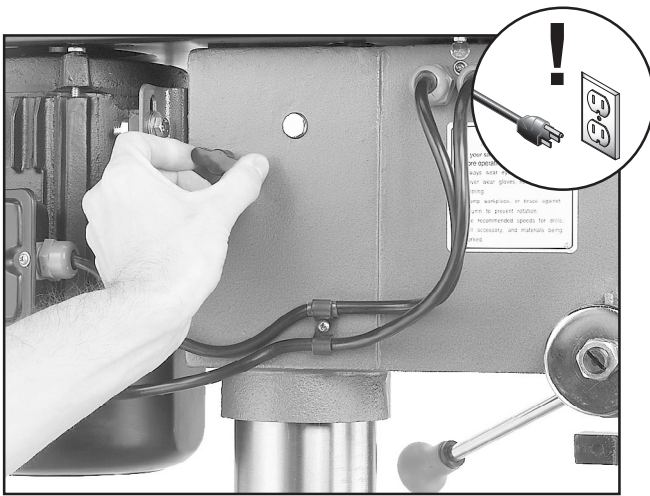

Figure 26. Loosening lock knob (both sides).
2. Loosen the belt tension lock knobs (shown in **Figure 26**) on both sides of the headstock, so the motor is free to move.